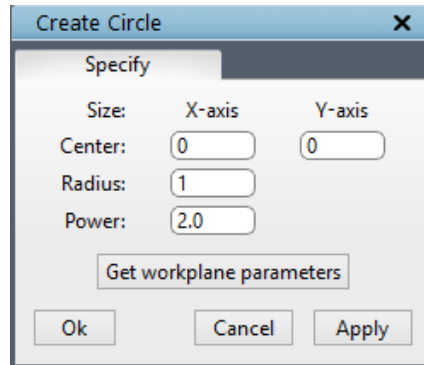

Figure 3.10: Circle dialog box
**Circle** is defined by its center, radius and power. Click on the **Circle** button in the **2D** tab of **Create** section. Figure 3.10 shows the Create Circle dialog box which appears on the right side panel. The center field require two real numbers separated by a white space representing the center of the circle and the radius and power field require a single positive real number representing the radius of the circle and the shape of the circle. As discussed earlier (Refer cylinder), if the power is more than 2, the shape would look more like a rectangle.